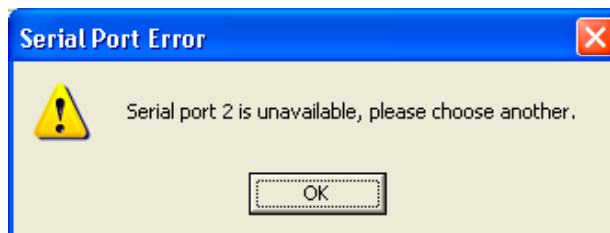

Figure 3-6. Prompt to Select a Different Port.
5. If a port is selected that is not available for use by the program, the program will prompt the user to select a different port (Figure 3-6).